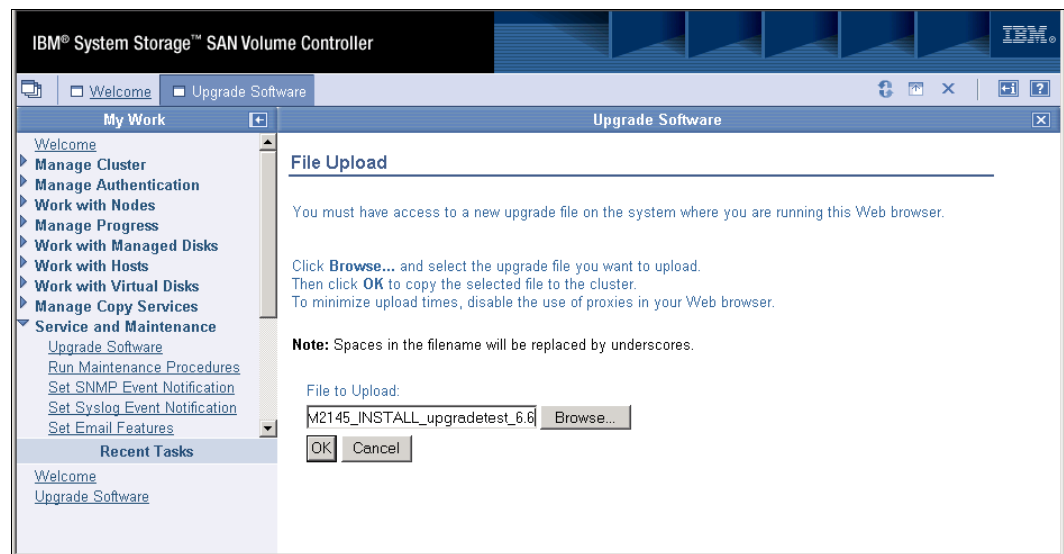

Figure 16-1 Upload SAN Volume Controller Upgrade Test Utility version 6.6
3. In the left pane of the IBM System Storage SAN Volume Controller window (see Figure 16-1), expand Service and Maintenance and select **Upgrade Software**.
4. In the File to Upload field that is in the File Upload pane (on the right side of Figure 16-1), select the SAN Volume Controller Upgrade Test Utility. Click **OK** to copy the file to the cluster. Point the target version to SAN Volume Controller code release 5.1.0.10. Fix any errors that the Upgrade Test Utility finds before you proceed.